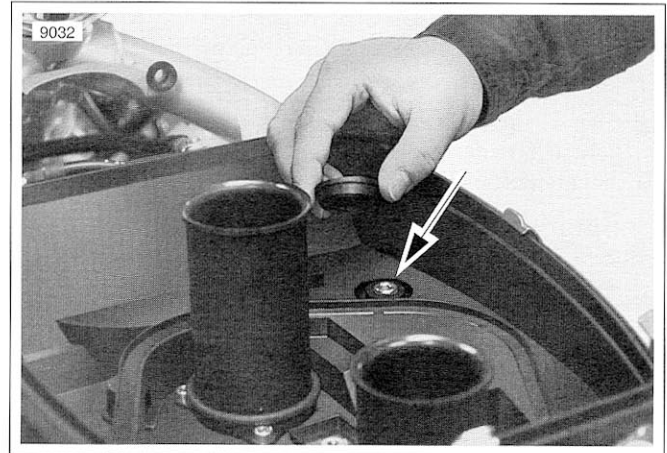

**Figure 1-11. Cold Full Line On Overflow Bottle**
2. See Figure 1-11. Check coolant level in overflow bottle with coolant cold and motorcycle on jiffy stand. If level is below COLD FULL line on tank, remove cap from tank and add Harley-Davidson, FULLY FORMULATED ANTI-FREEZE until fluid level reaches COLD FULL line.